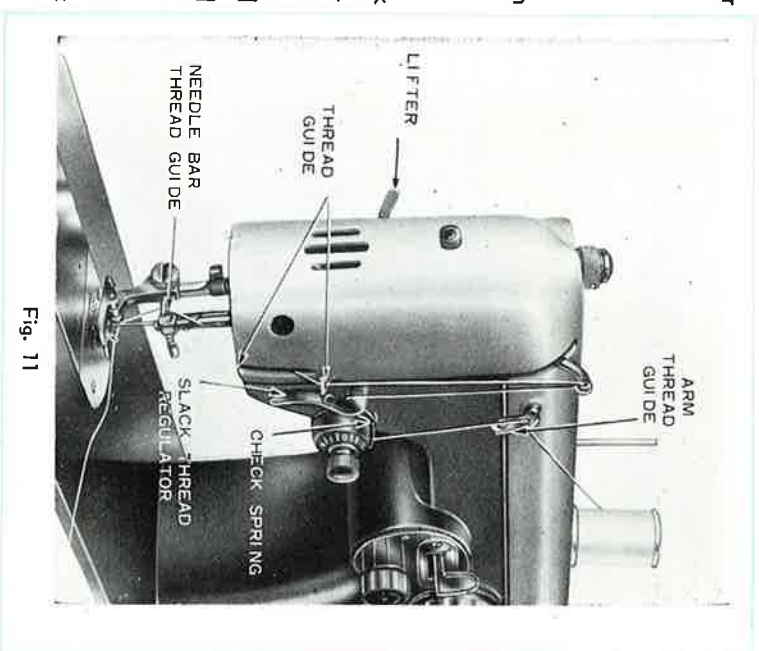

Fig. 11
1. Raise the presser bar by lifting the presser bar lifter (Fig. 11).
3. Lead the thread through the arm thread-guide (Fig. 11).
2. Lower the presser foot by lowering the presser bar lift (Fig. 11).